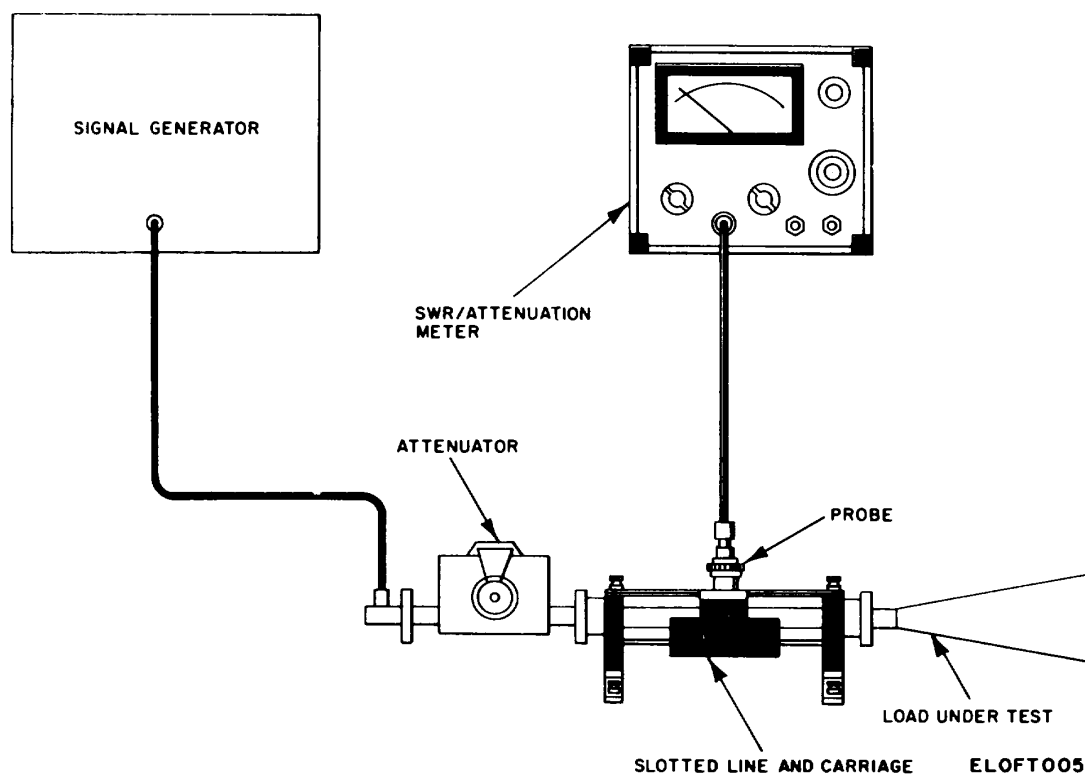

Figure 3-2. Test setup for making VSWR measurements using the slotted line technique
should be thus checked, as there is often a significant variation between crystals. With the equipment connected as described in paragraph 3-3, and indicated in figure 3-2, proceed as follows:
- (1) Connect the equipment as indicated in figure 3-2.